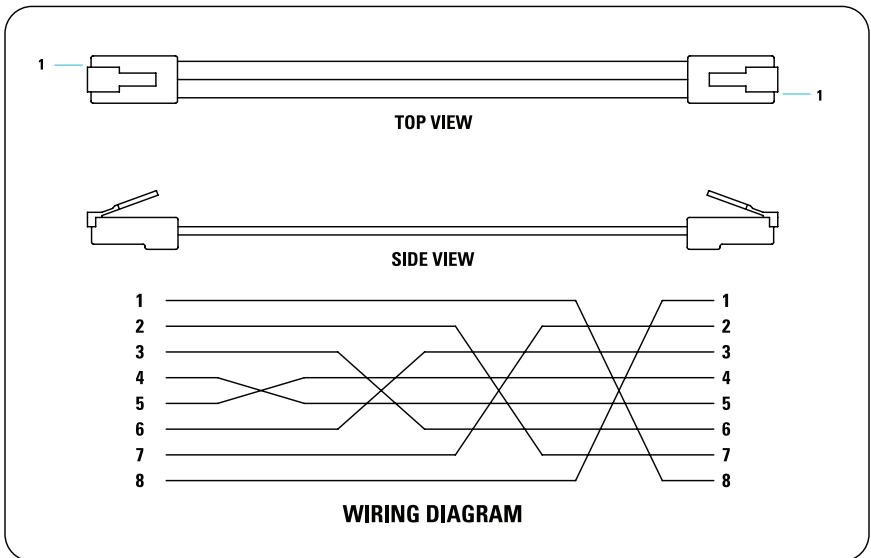

Figure 5: IQ Power Crossover Modular Cable (black)
- G. **Connect Control Station** (if used). The Control Station supplies 24 VDC power for the IQ Power static eliminator power supplies. Cables must be IQ Power 8-conductor modular cables with RJ-48 connectors wired “crossover” (reference color: black, Figure 5).
Use the 2.13 meter [7 foot] (black) modular cable supplied with Sensor Interface. Longer cables (not supplied) are available. Cables for Sensor Interface must be IQ Power 8-conductor modular cables with RJ-48 connectors wired “crossover” (reference color: black, Figure 5).